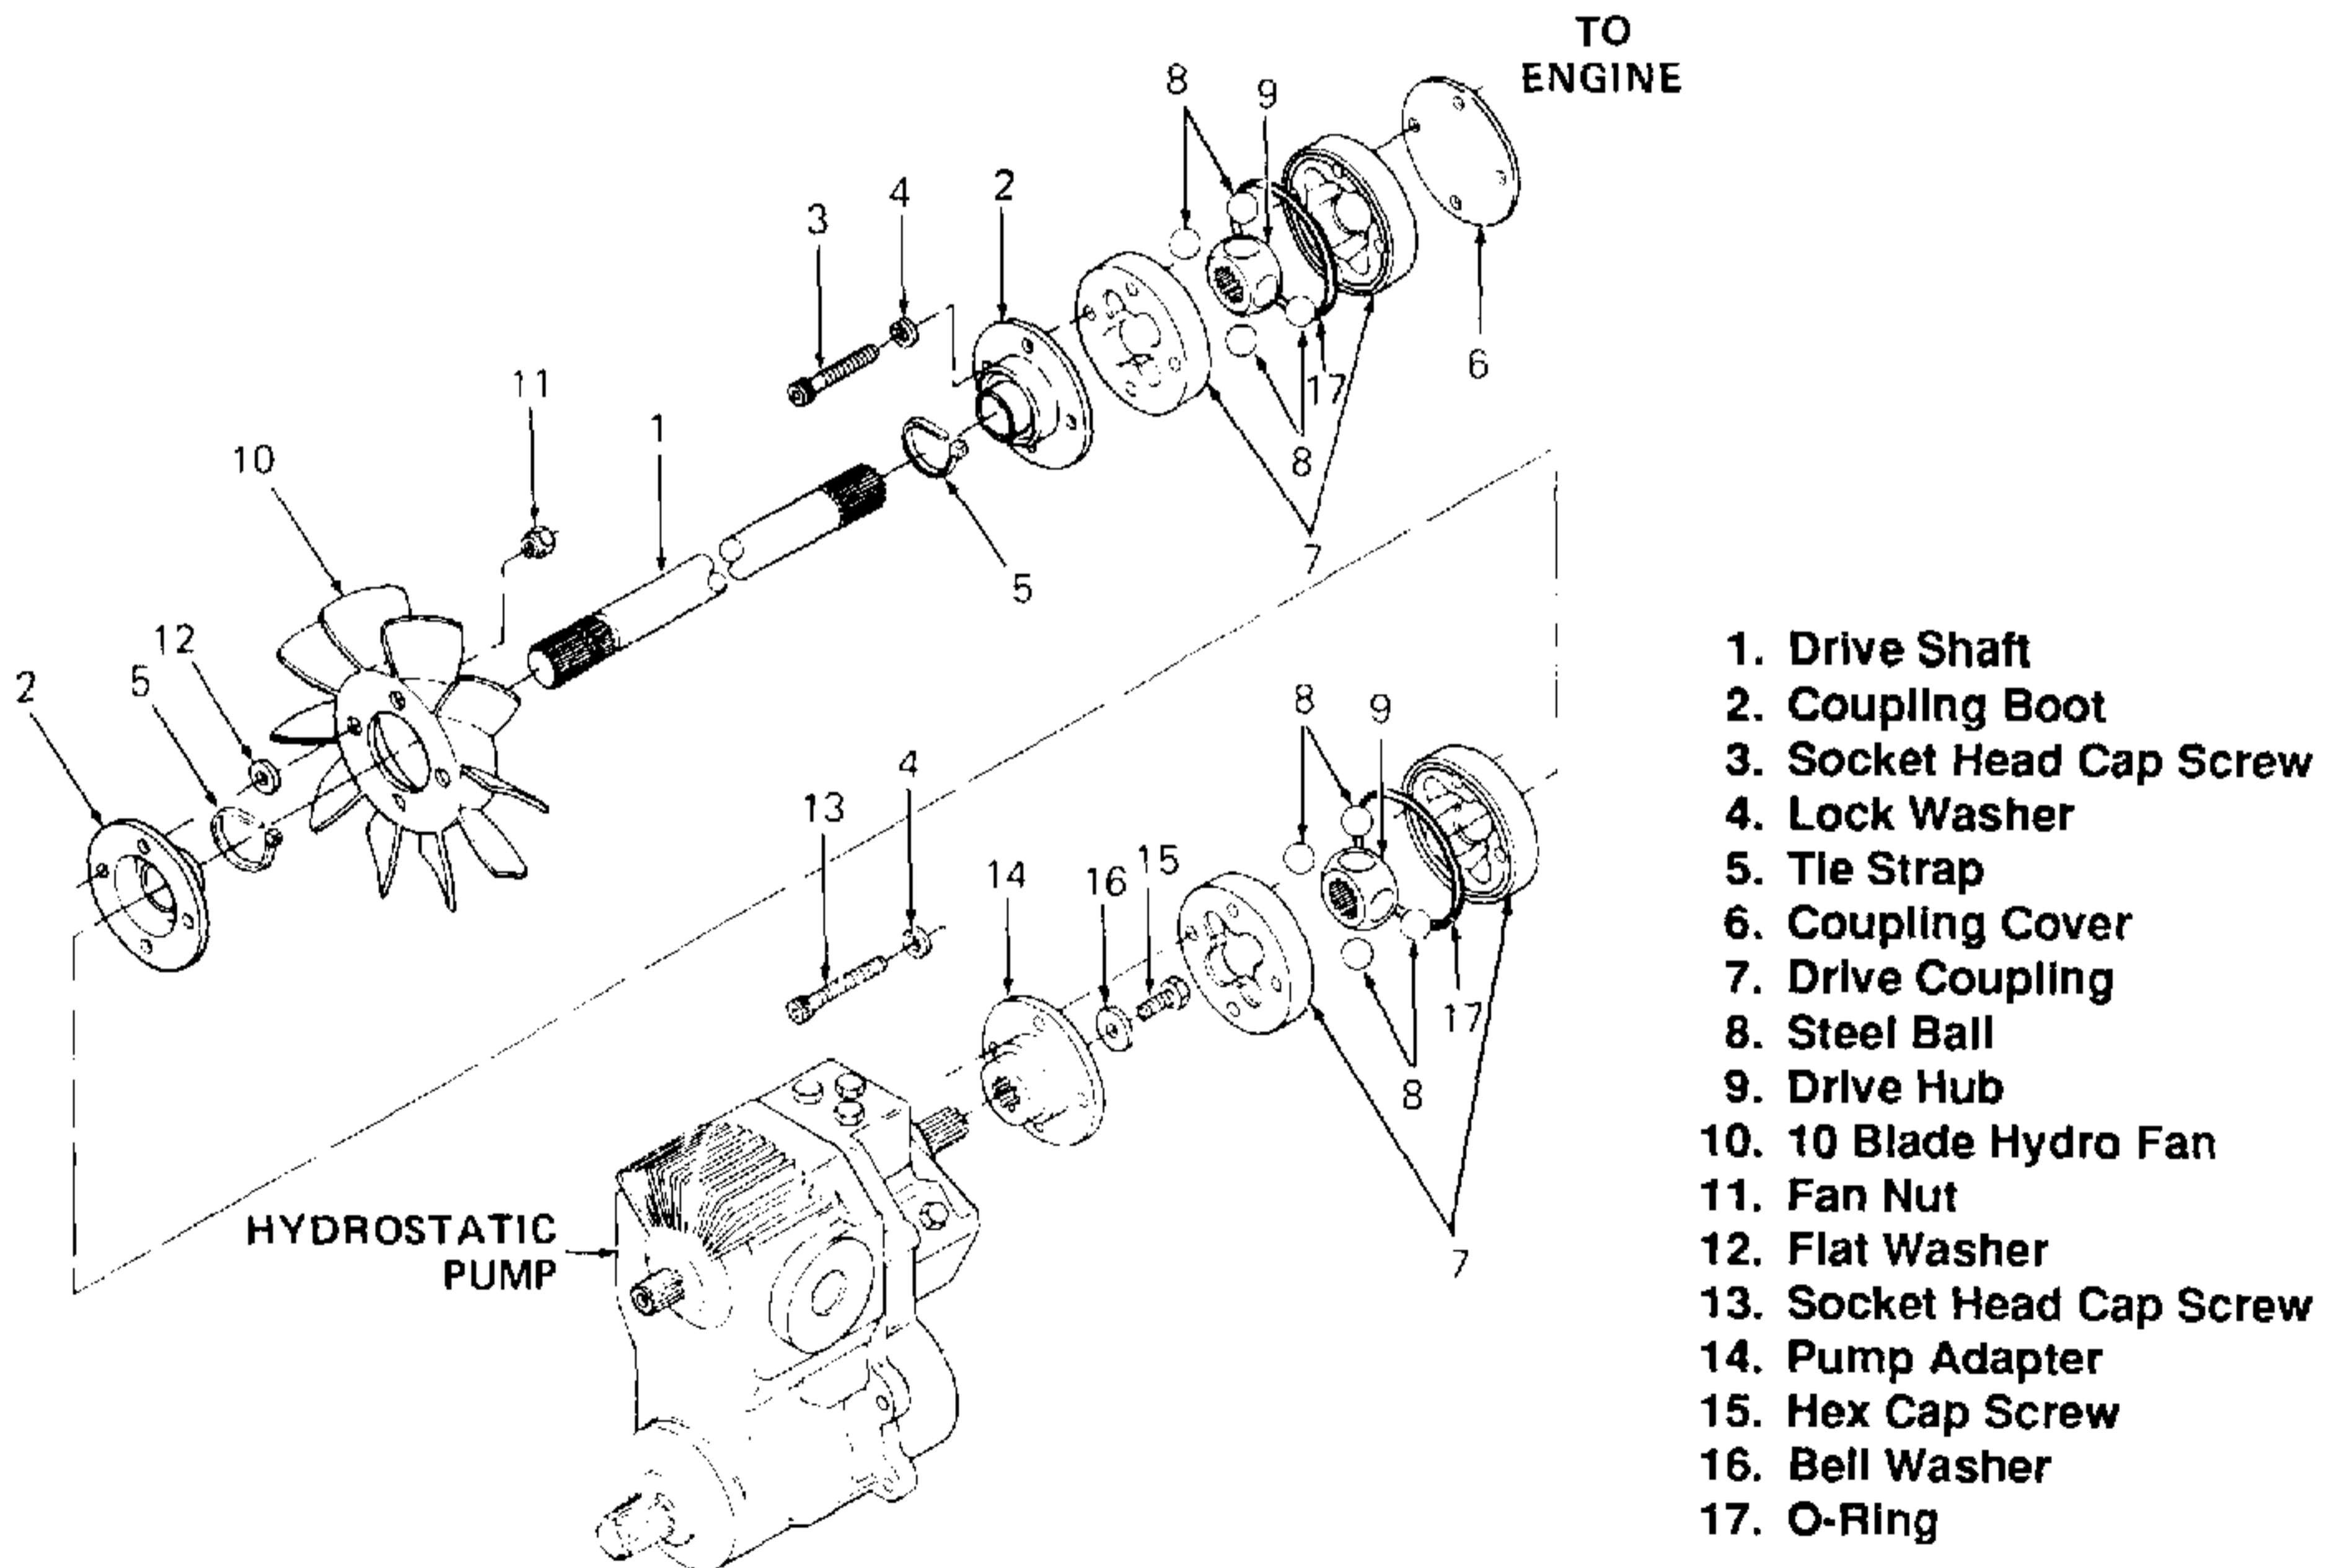

Figure 5-70. Drive Line (Models 1340, 1541, 1860 and 1862).
3. Remove drive shaft (1, Figure 5-70) as follows:
Tractors prior to the 1991 model year (Serial Number 811,671 and below) were not equipped with O-rings (17). When circumstances permit, these tractors may be upgraded during repair by installing grooved drive couplings (7, Figure 5-70) with O-rings (17) seated.
- (3) Remove rear drive coupling (7) and coupling boot (2) from drive shaft. Discard coupling boot.
equipped with O-rings (17). When circumstances permit, these tractors may be upgraded during repair by installing grooved drive couplings (7, Figure 5-70) with O-rings (17) seated.
- (5) Remove drive hub (9). Remove front drive coupling (7), coupling boot (2) and fan (10) from shaft. Discard boot (2).
- (6) Remove pump adapter (14) by removing hex cap screw (15) and bell washer (16).